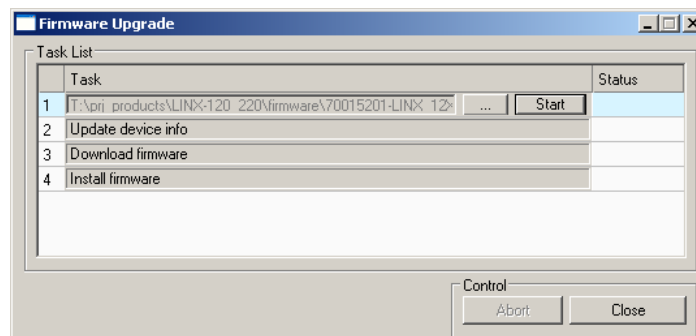

Figure 233: Firmware Update dialog of the Configurator.
6. This opens the Firmware Update dialog as shown in Figure 233. Click on the button "... " and select the firmware image.